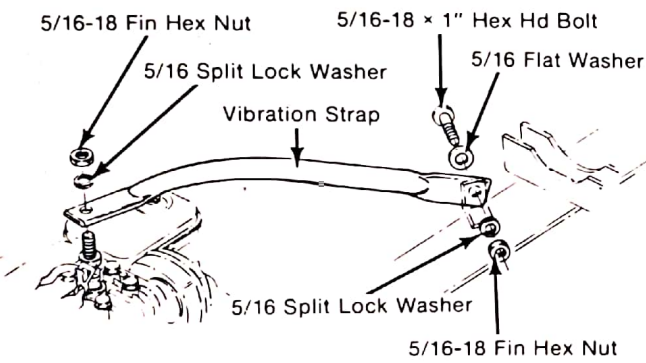

Figure 3
**Step 3)** Your hydraulic log splitter comes equipped with a vibration strap which is bolted to the engine on one end. This strap end is fastened to the engine with a 5/16 split lock washer, and 5/16-18 nut. The other end of vibration strap is fastened to the left side of the beam. It will be necessary to rotate the engine air cleaner to properly attach the vibration strap. The vibration strap is secured to the beam by a 5/16"-18 bolt, flat washer, lock washer, and nut. (Fig. 3) After vibration strap is secure, tighten hardware from Step 2.